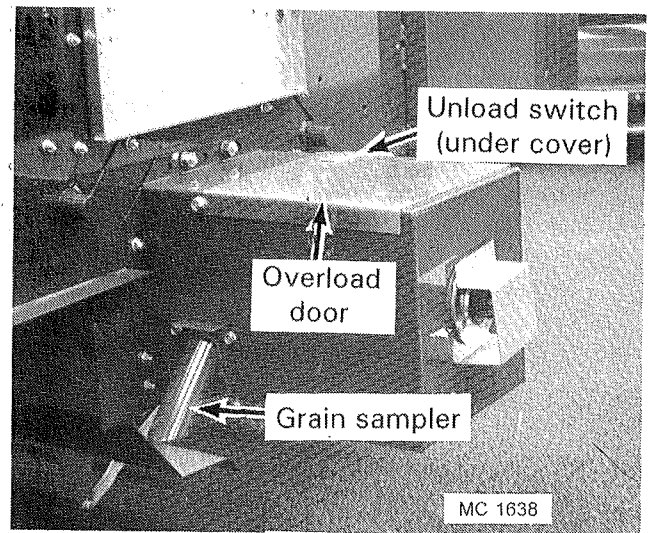

Figure 30
11. Test the moisture content of the grain being discharged every 15 minutes until it stabilizes. Use grain sampler on unload auger discharge housing. See Figure 30.
12. If the moisture content is too high after it stabilizes, turn the SCR Drive Speed Control down to a lower number to decrease the unloading speed. If it is too low, turn the speed control up to a higher number to increase the unloading speed. Avoid over adjusting. Make small changes in dial setting. Then wait (1) hour to allow dryer to react before making any further changes.
1. If the customer supplied grain take away system fails, the dryer will continue to discharge grain until the rear discharge overload door, Figure 30, is raised by the grain.
- b. Observe the moisture display when the sample is taken. Record both the displayed values and tested values for at least six (6) samples and take the average of each.
- c. Take samples from the Grain Sampler located on the left side of the Unload (Discharge) Auger Box, see Figure 30.